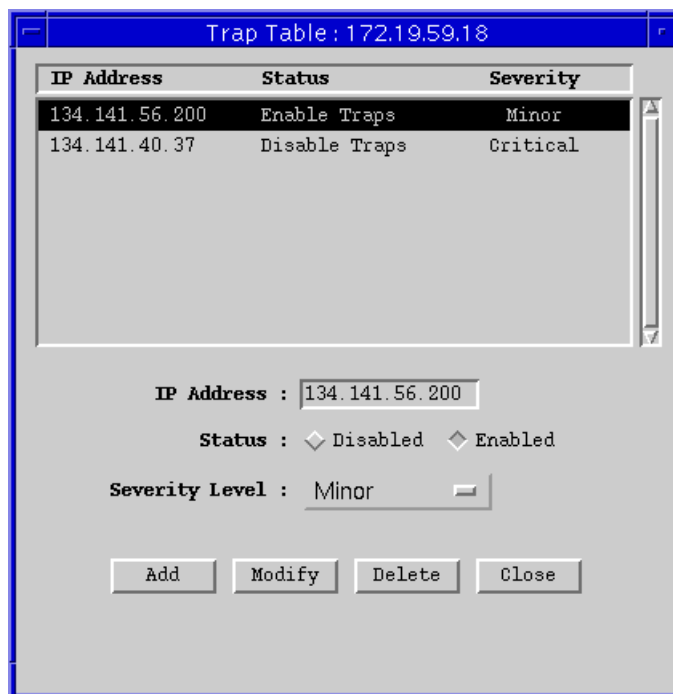

Figure 3-1. The Trap Table
2. Drag down to **Trap Table**, and release. The Trap Table window, Figure 3-1, will appear.